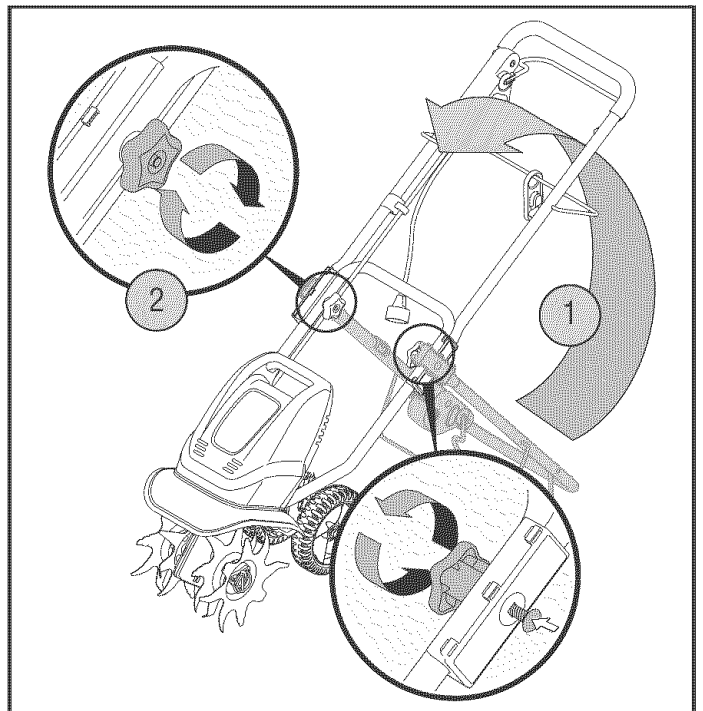

Fig. 2
2. Gently lift and pivot the upper handle into the operating position (Fig. 2).
3. Secure the upper handle and lower handle by tightening the hand knobs (Fig. 2). Each carriage bolt must be seated properly into the square hole found in the plastic connector.